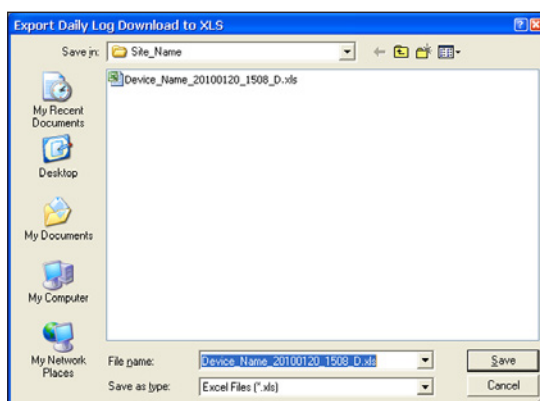

Figure 14.37
3. An Export... window will appear (Figure 14.37, page 205). To change the file path and/or file name from the defaults listed below, browse to the desired file path and/or type the desired entry in the field provided. See Log Directory and Filenames, page A-17 for more information.